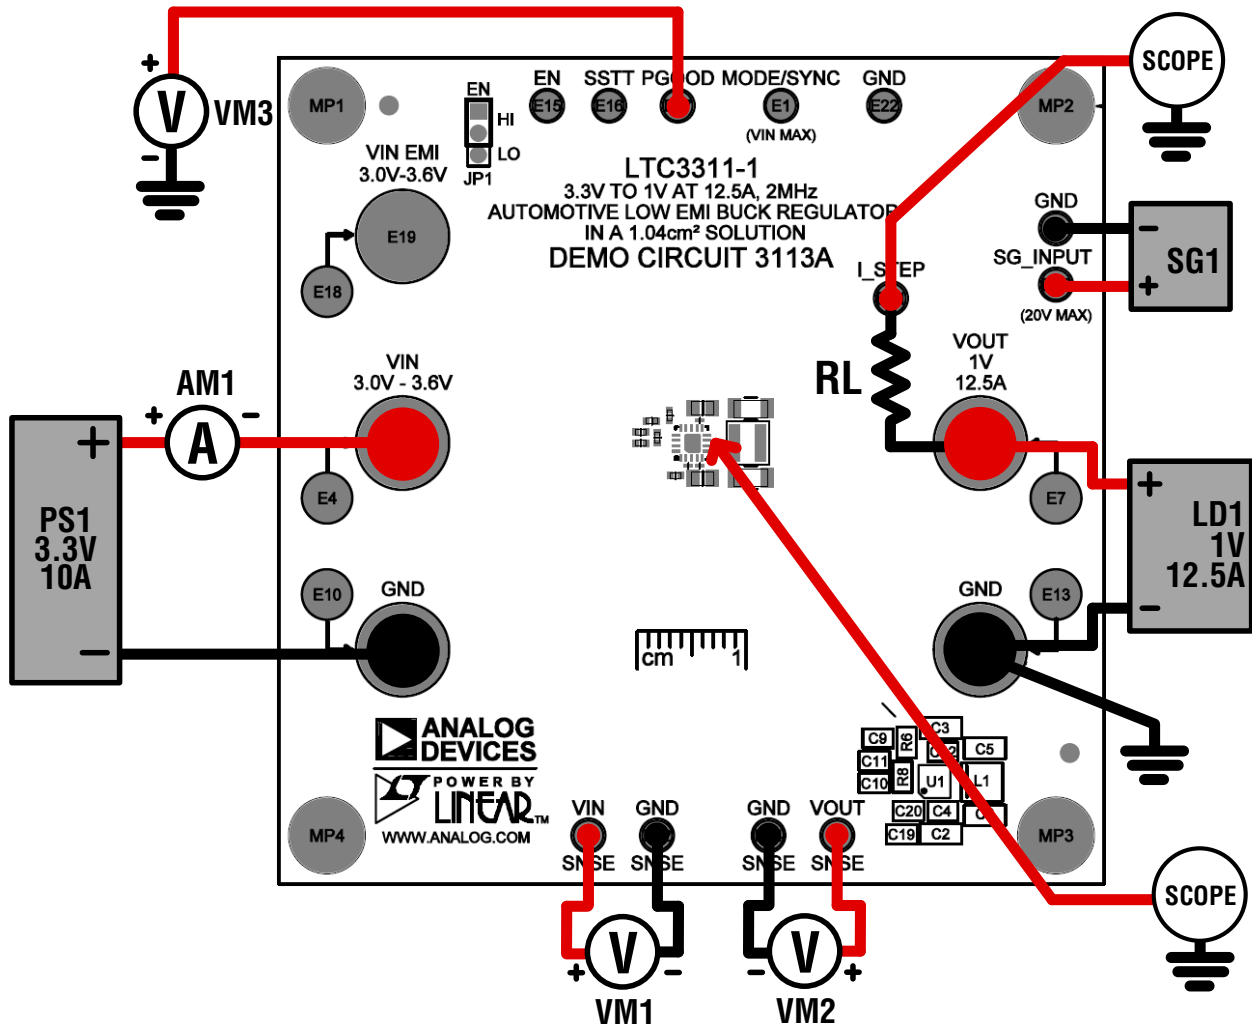

Figure 2. Test Setup for DC3113A Demo Board
Refer to Figure 2 for the proper measurement equipment setup and follow the procedure below:
NOTE: For accurate V_{IN} , V_{OUT} and efficiency measurements, measure V_{IN} at the VIN SNSE and GND SNSN turrets, and measure V_{OUT} at the VOUT SNSE and GND SNSE turrets as illustrated as VM1 and VM2 in Figure 2. When measuring the input or output ripple, care must be taken to avoid a long ground lead on the oscilloscope probe.
- To test the transient response with a base load, add the desired resistor to produce a minimum load between V_{OUT} and I_STEP turrets (R_L shown on Figure 2). Note that the total load resistance will be R_L plus R10 (10mΩ). Adjust a signal generator with a 10ms period, 10% duty cycle and an amplitude from 1V to 2V to start.